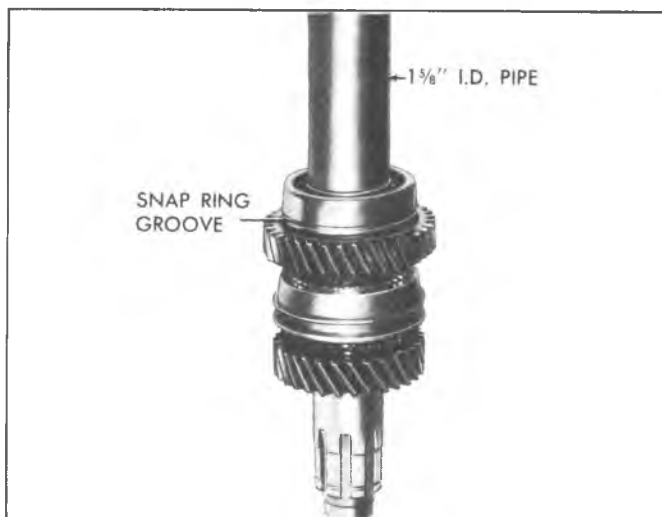

Fig. 13B--Installing Rear Bearing
4. Install the first speed gear (with hub toward front) and using 1 5/8" I.D. pipe cut to a suitable length, press on the rear bearing (fig. 13B).